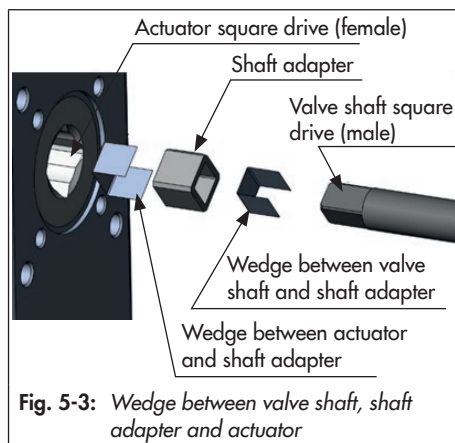

Fig. 5-3: *Wedge between valve shaft, shaft adapter and actuator*
1. Place the segmented ball (7) of the valve in the CLOSED position (0° angle of rotation).
2. Fasten the yoke (2) to the flange of the valve shaft (12) using two or four screws (depending on the valve size).
3. If necessary, place the shaft adapter on the valve shaft (12). Slide the actuator over the adapter or valve shaft (12) and fasten it onto the yoke (2) with four screws. There must be no clearance between the actuator and valve shaft (12)/shaft adapter. If necessary, insert thin wedges (see Fig. 5-3 and the 'Accessories' section in the Annex).
4. For the actuator's standard direction of rotation, adjust the stop bolt B to the point where the valve is completely closed and align the markings on the valve shaft (12) and packing gland (15).
1. Place the segmented ball (7) of the valve in the OPEN position (90° angle of rotation).
3. If necessary, place the shaft adapter on the valve shaft (12). Slide the actuator over the adapter or valve shaft (12) and fasten it onto the yoke (2) with four
screws. There must be no clearance between the actuator and valve shaft (12)/shaft adapter. If necessary, insert thin wedges (see Fig. 5-3 and the 'Accessories' section in the Annex).
4. For the actuator's standard direction of rotation, adjust the stop bolt A to the point where the valve is completely open at 90° and align the markings on the valve shaft (12) and packing gland (15).
7. Adjust the stop bolt B to the point where the segmented ball (7) completely closes the valve and align the markings on the valve shaft (12) and packing gland (15).